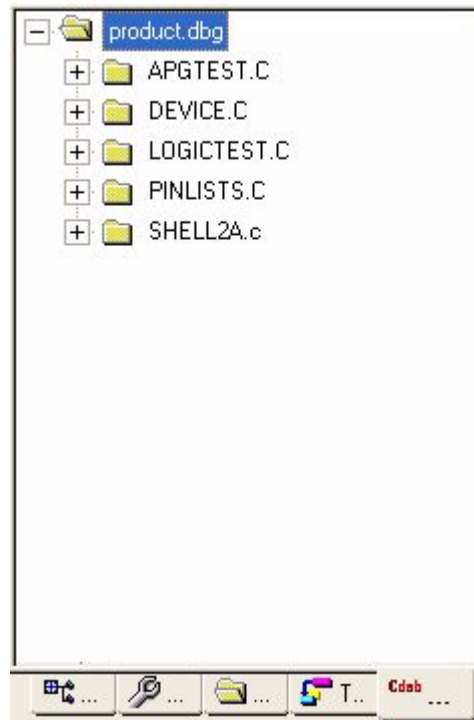

Figure 5-48. C Debugger Cdeb Tab
- 6 Selecting the Cdeb **Cdeb** tab in the Navigator pane displays its tab that lists all the source code file names and function names for the loaded test program (similar to Figure 5-48).